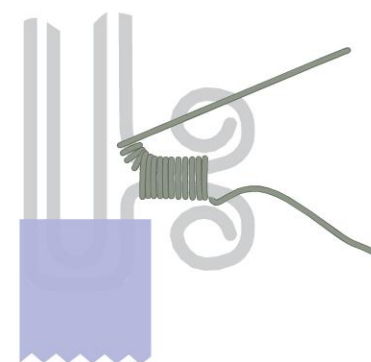

figure 14
- 26 Cut 4' (1.2 m) of 26-gauge wire. Coil the two looped ends (the key's "notch") of the key frame wire together twelve to fourteen times, then coil around the curve of the key frame wire four to five times (Figure 14).